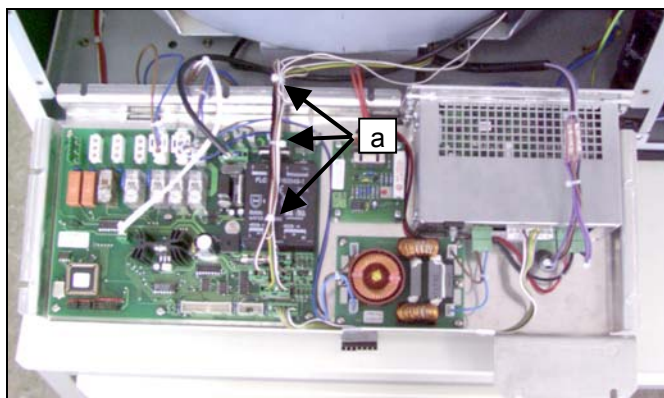

Fig. 14
- Remove all fixing elements (Fig. 14, a) of the speed sensor cable.
- Fasten the speed sensor cable again, see Fig. 14.